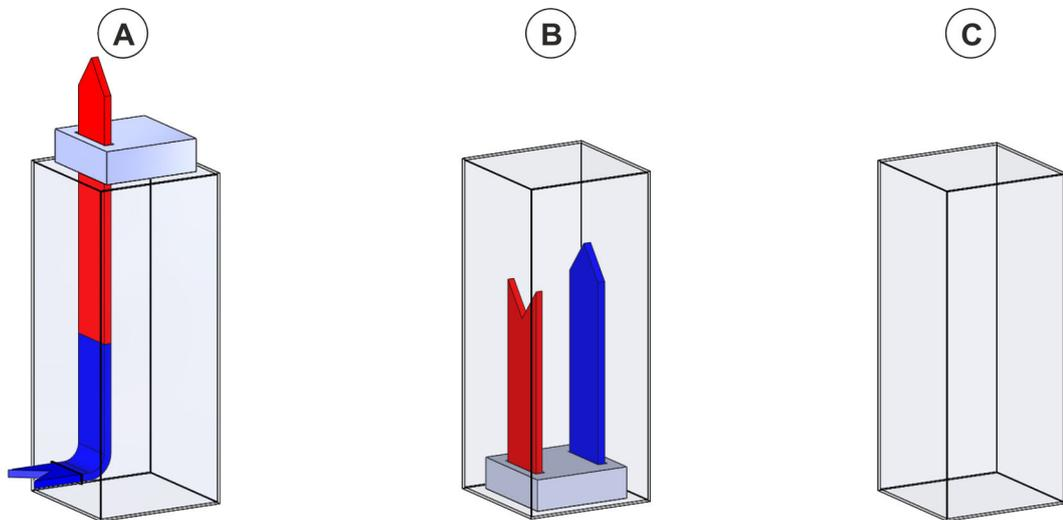

Fig. 16: Cooling air circuit 19" cabinet
- Operation only in closed cabinets. If cooling units are installed, make sure that no air exchange with the ambient air takes place (Fig. 16).